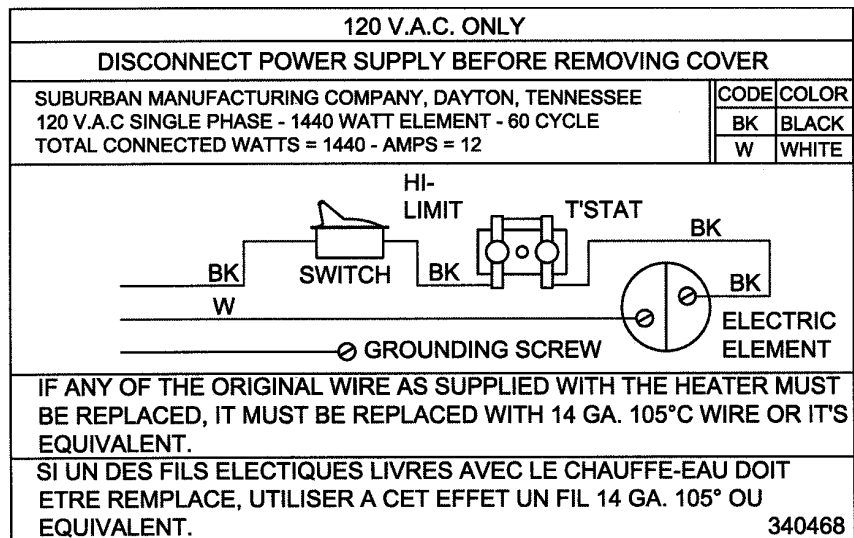

Figure 5
D. Check rating plate and wiring diagram (Figure 5) before proceeding. Install a fused safety switch or circuit breaker of adequate capacity between heater and electrical power source. Attach the black and white wires from the fused switch or breaker to corresponding colored wires in heater junction box. A green wire from a well grounded source must be attached to the green nut in the junction box.